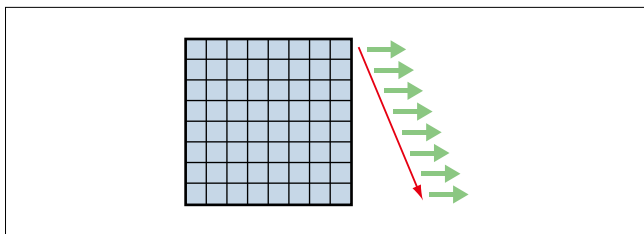

Fig. 15 Top to bottom readout
- Top to bottom readout (Fig. 15): The data is readout from the top to the bottom line.